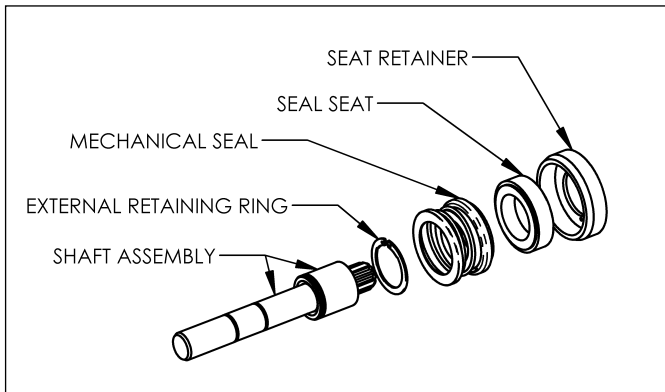
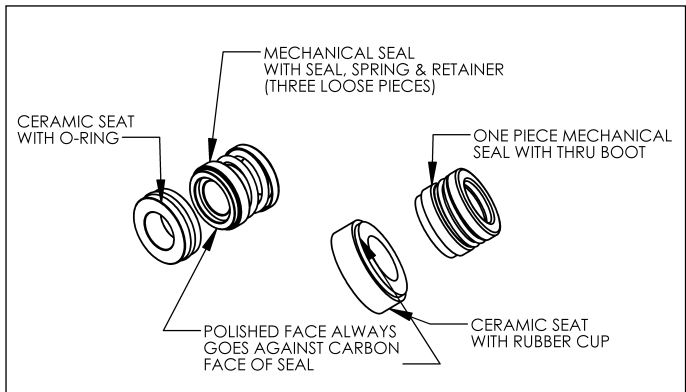
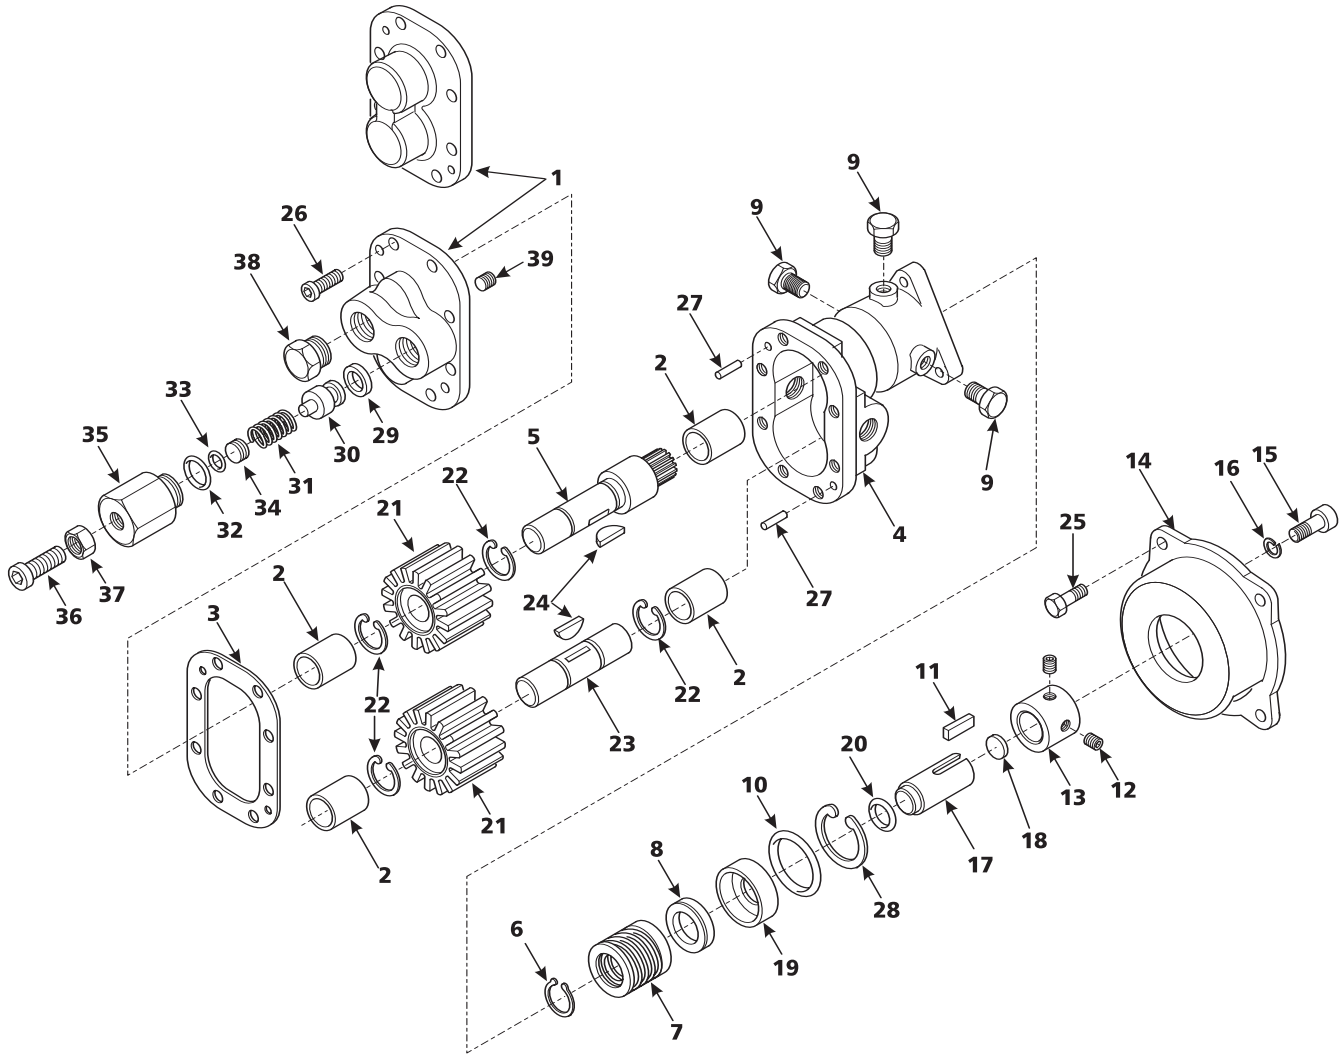

Figure 10 - Shaft and Seal Assembly
Figure 11 - Seal Types and Parts Identification
Figure 12 – Repair Parts Illustration
(Refer to Figure 12 for Reference Numbers and Figures 10 & 11 for detailed seal and shaft assemblies.)
- b. Refer to assembling components on drive shaft (See Figure 10). When installing the seal on the shaft, wet with water and be cautious when sliding it into position. The spring retaining washer and spring are behind the seal with the carbon ceramic facing towards the keyed end of drive shaft.
- c. There are two possible types of seals. One style, the seal is one piece while the other style has a seal boot, spring and spring retainer. The seal seats can also be of two styles; one has a rubber boot and the other has an o-ring. Identify which type you have (See Figure 11). Press seal seat into the seal retainer (See Figures 10 & 11) using water as a lubricant. The white shiny ceramic face should be visible after pressing the seal to the seal retainer. It is recommended to use a cardboard washer or wood dowel when pushing the seal seat into the seal seat retainer. Any scratches, dirt, or fingerprints on the carbon ceramic faces will cause the seal to leak. The seal seat is stationary in the pump, while the seal on the shaft rotates, providing for the sealing surface.
e. Slide the drive shaft assembly (Ref. Nos. 5,6,7,8 &19) into the gear pump and secure with the internal retaining ring (Ref. No. 28). (Also see Figure 10.)